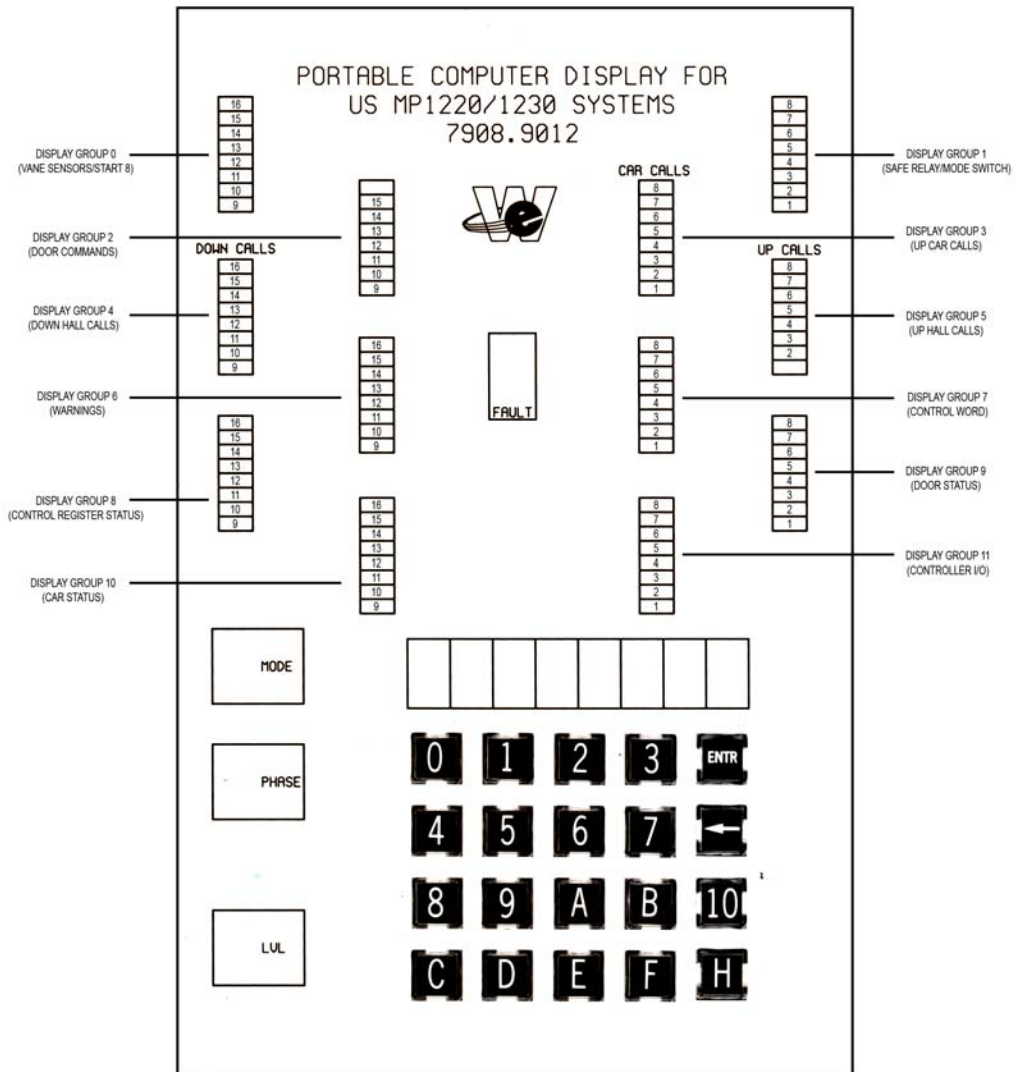

FIGURE 2-1
- Figure 2-1 shows the layout of the PCD display panel.
**LED Displays** The LED display groups (Figure 2-1) are identified by numbers from 0 to 11. With exceptions of Display Groups 6, 7, and 8, the displays represent I/O signals to the computer which are either generated by or destined for remote hardware. Display Groups 6, 7, and 8 represent output signals generated as a result of computer programming to report on various operating conditions or status. For input signals, a lit indicator means the computer acknowledges (“thinks”) a switch is closed. Each display group is described briefly in the following paragraphs and, for easy reference; each indicator is listed and explained in Table 2-1.
Locations of the numeric displays are shown in Figure 2-1. PCD Panel.